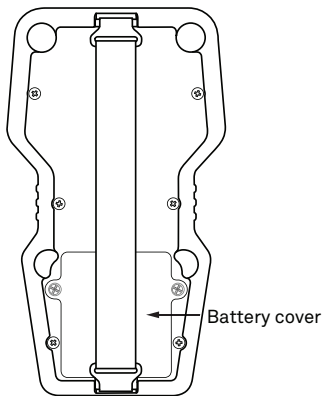

Figure 23 Battery cover
1. Turn the THERMOLINK controller over and locate the battery cover in the lower section of the back panel (Figure 23).